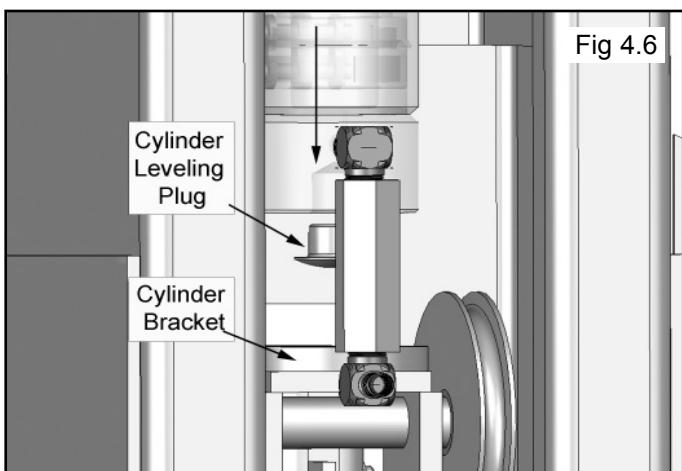

Fig 4.6
5. Ensure the Cylinder seats back into the Mounting Bracket and the Cylinder Leveling Plug sits in the hole in the bottom of the Cylinder. (See Fig 4.6)